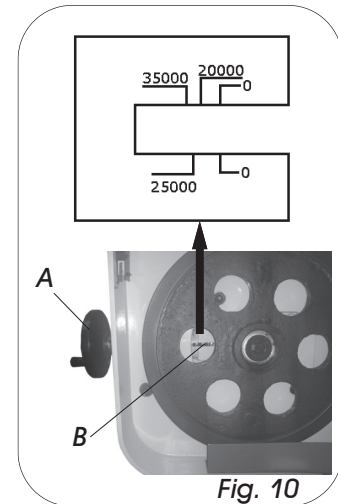

Fig. 10
To tension the blade, lift up the left wheel cover and turn the blade tension hand-wheel (Fig. 10, A) clockwise, a tension scale (B) is located underneath the wheel. The scale is graduated to indicate blade tension of 20,000, 25,000 and 35,000 pounds per square inch (psi). For carbon blades (similar to the one supplied with the machine) the blade should be tensioned at 20,000 psi. For bi-metal blades, the blade should be tensioned at 25,000 or 35,000 psi. Always release the blade tension at the end of each work day to prolong blade life.